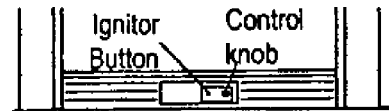

Figure 11 -Control Knob and Ignitor Button Location
4. Wait five (5) minutes to clear out any gas. Then smell for gas, including near the floor. If you smell gas, STOP! Follow "B" in the *safety information*. If you don't smell gas, go to the next step.
5. Turn control knob counterclockwise ↺ to the PILOT position. Press in control knob for five (5) seconds (see Figure 11).